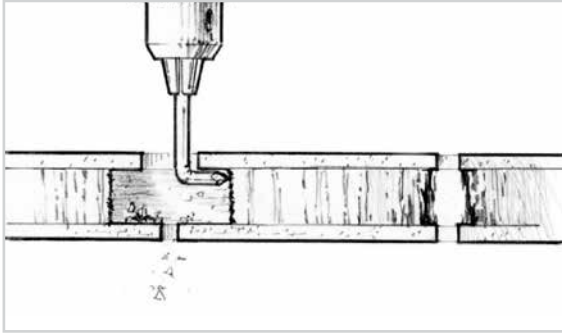

Figure 7-2 Remove about ½" (12 mm) of core material around the hole with a bent nail or an Allen wrench chucked into a drill motor.
2. Clean out the fastener holes and remove a portion of the core around the hole. Re-drill holes with an oversized bit or enlarge holes with a round file to increase bonding area. Drill through the outer skin and core only. Remove about ½" (12 mm) of core material around the hole with a bent nail or an Allen wrench chucked into a drill motor (Figure 7-2). The spinning nail or Allen wrench will pulverize the core material without damaging the skins, provided you are careful.